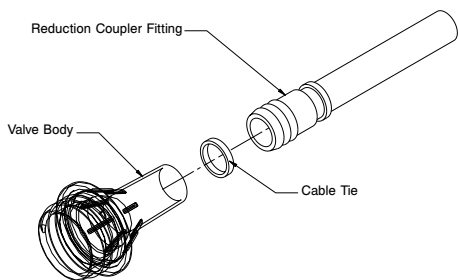

Figure 3
4. Using diagonal pliers, carefully cut the cable tie closest to the foot end of the mattress cover securing the low air loss hose and reduction coupler fitting to the valve body (See Figure 3).
5. Using diagonal pliers, carefully cut the cable tie closest to the foot end of the mattress cover securing the low air loss hose and reduction coupler fitting to the valve body (See Figure 3 on page 20).